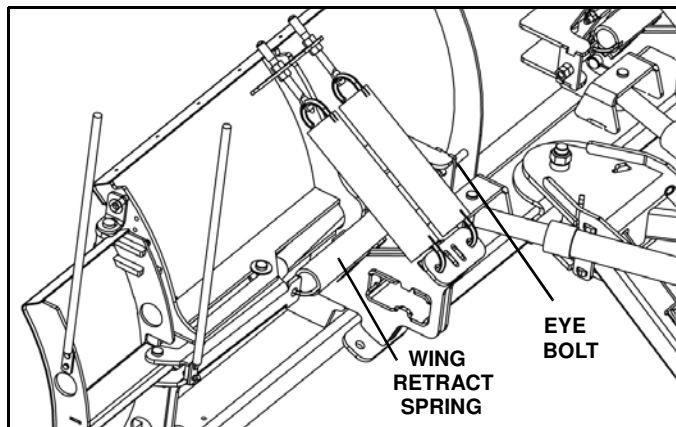

Figure 1-11
14. Install the retract spring to the wing bracket. Install the opposite end of the spring to the 5/8"-11 x 4-1/2" eye bolt on the blade frame. (See Figure 1-11).